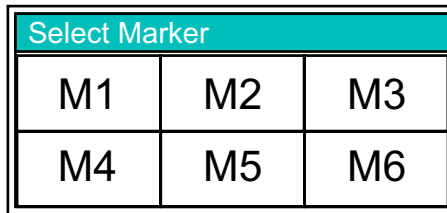

Figure 3-6. Marker Selection Box
1. Press the Marker submenu key to display the Select Marker box, as shown in Figure 3-6. Press the desired marker number. The selected marker number is displayed in the sweep window and is also underlined on the Marker submenu key.